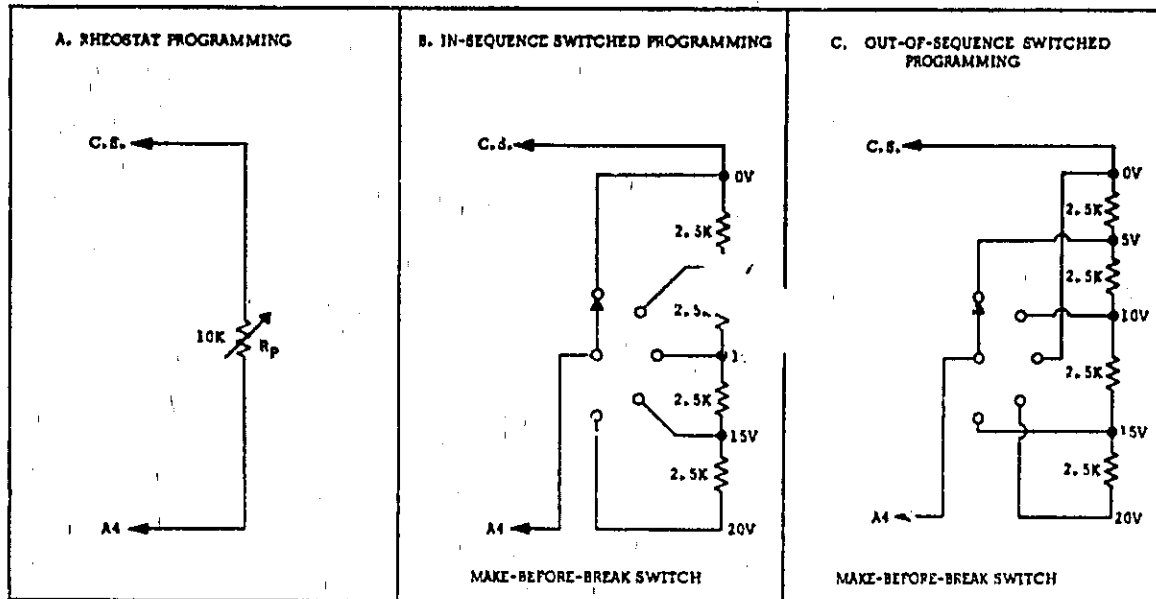
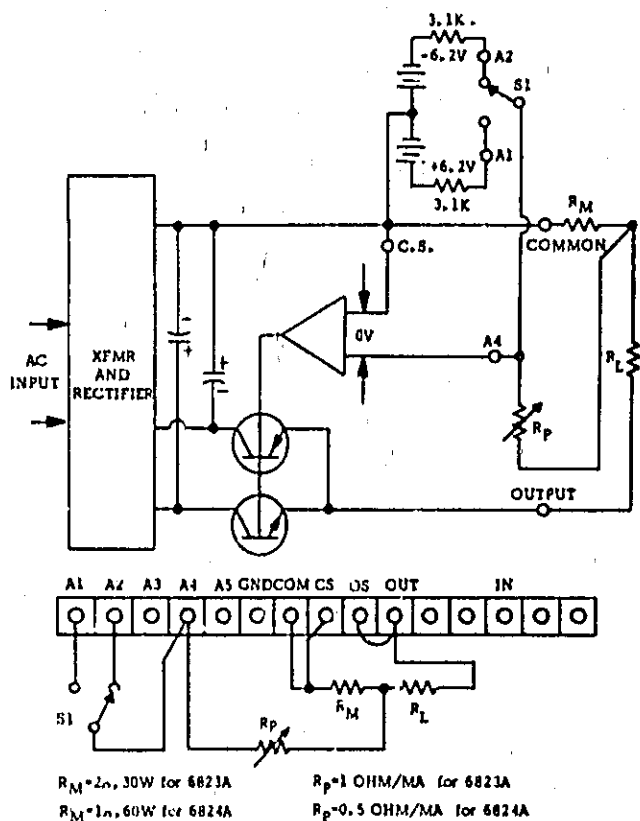

Figure 3-10. Switched Resistor Substitutes
Figure 3-18. Remote Resistance Programming, Bipolar Output (CC)
3-45 If it is desired to achieve accurate programming reproducibility, or if it is necessary to repeatedly set the power supply output to specific voltage values, either of the substitute arrangements suggested by Figure 3-10(B) and 3-10(C) may be employed in place of the rheostat Rp. Suppose, for example, it is decided to set the power supply over the span from 0-20V. If continuous adjustment is required, the best choice would be a 10K rheostat (since the programming coefficient is 500 ohms/volt). But if specific tests must be made at 0, 5, 10, 15, and 20V, the arrangement shown in Figure 3-10(B) should be employed, using a make-before-break switch. If the same voltage values are desired, but not in ascending or descending sequence, the terminals from the resistor string can be connected to the switch in any desired sequence, as suggested by Figure 3-10(C).
3-74 Figure 3-18 shows one method of controlling the output of the PS/A as a remote programmed Constant Current power supply. Switch S1 causes the output current to be either positive or negative. If it is desired to achieve only a positive or only a negative output current (unipolar output), then S1 must be eliminated. Terminal A4 is strapped directly to A2 for a positive output, or directly to A1 for a negative output.
3-75 The front panel FINE/ZERO control permits the output current to be adjusted to zero when Rp is set to zero, while the slope of the programming coefficient is adjusted by means of R38 (positive output) and R39 (negative output). Either of the switched resistance schemes of Figure 3-10 may be substituted for a variable Rp in this or any other Constant Current diagrams which follow. The advantage of the circuit of Figure 3-18 is that the output current is a linear function of the programming resistance; the disadvantage is that a switch must be used in order to accomplish polarity reversing.